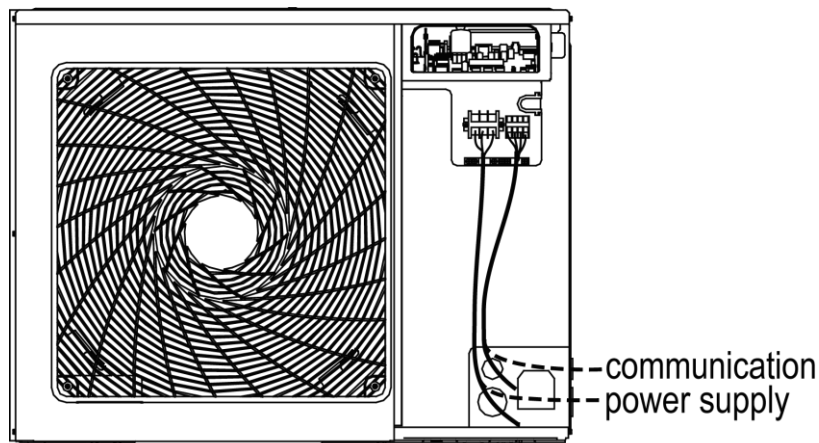

Fig. 27 Engineering Wiring View of GMV-80WL/A-T, GMV-100WL/A-T, GMV-121WL/A-T, GMV-80WL/C-T,
- (1) Please refer Fig. 27 and 28 for engineering wiring. If there is the hole for cable tie in wiring route, please fix the wire with cable tie. Connect the power cord and communication cable to the corresponding terminal board and grounding screw according to the wiring diagram.
- (2) Please be noted that engineering wiring cannot touch the pipe and appliance.
- (3) This figure is only applicable for engineering wiring reference of power supply and communication cable. If there are differences between the figure structure and actual unit, please refer to the actual unit.
- (4) For engineering wiring, please refer to the wiring diagram provided with the unit.